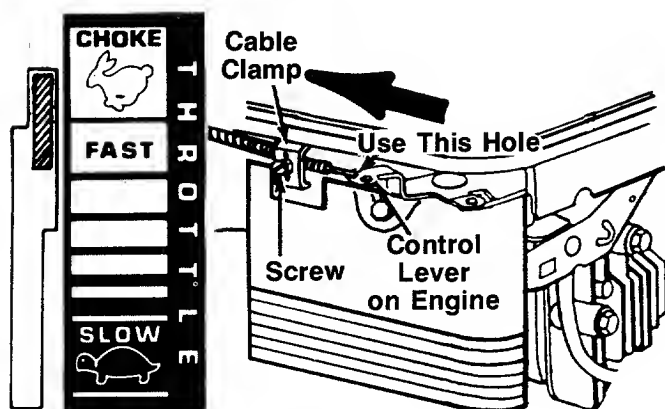

FIGURE 5.
1. Push the throttle control lever on the handle all the way forward to CHOKE position. See figure 5.
2. The throttle control cable is attached to the upper handle. Route the throttle control cable under the lower handle. Route the cable to the **outside** of the handle wheel bracket assembly and height adjustment lever then in back of the engine. Hook the "Z" end of the throttle control cable into the hole in the control lever on the engine shown in figure 5.
3. Using a screwdriver, remove the screw and cable clamp shown in figure 5.